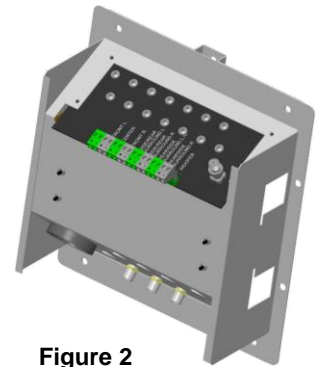

Figure 2
- A. At the HECC location, pull the RG6QS and speaker wires through the hole in the drywall that was cut for the HECC. Terminate the RG6QS cables with "F" connectors and attach to the appropriate connectors for distributed TV service and sub-woofer service. The Surround Sound speaker wires should be terminated at the screw terminals on the back of the HECC in accordance with the appropriate speaker locations (5.1, 6.1, 7.1) as indicated on the HECC (see **Figure 2**).
- D. If using a 6 Room Audio Module, terminate the speaker wires from the impedance matching volume controls at the screw terminals on the back of the HECC (see **Figure 2**).